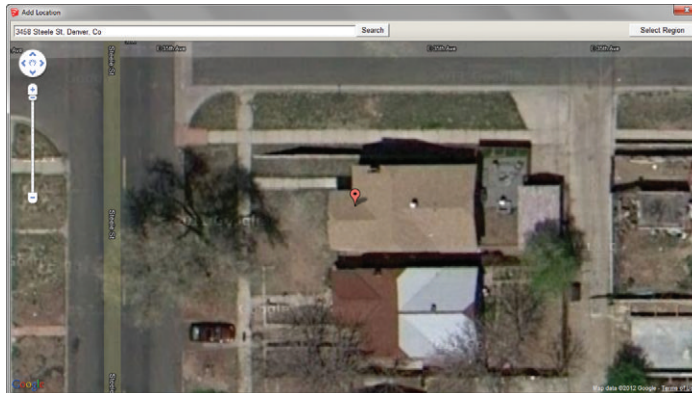

Figure 17.1 The Add Location dialog
2. Click on the File drop-down menu and select Geo-Location > Add Location. In the search bar, type **3458 Steele St, Denver, Co**, then press Enter (Figure 17.1).